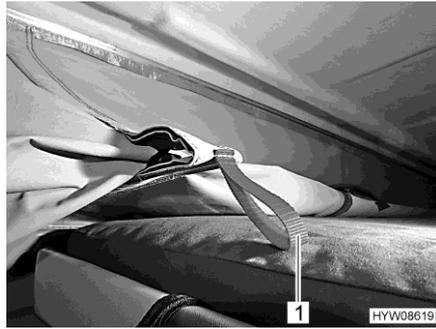

Fig. 33 Retraction device
- Pull in the canvas by the red tabs (Fig. 33,1) of the retraction device.